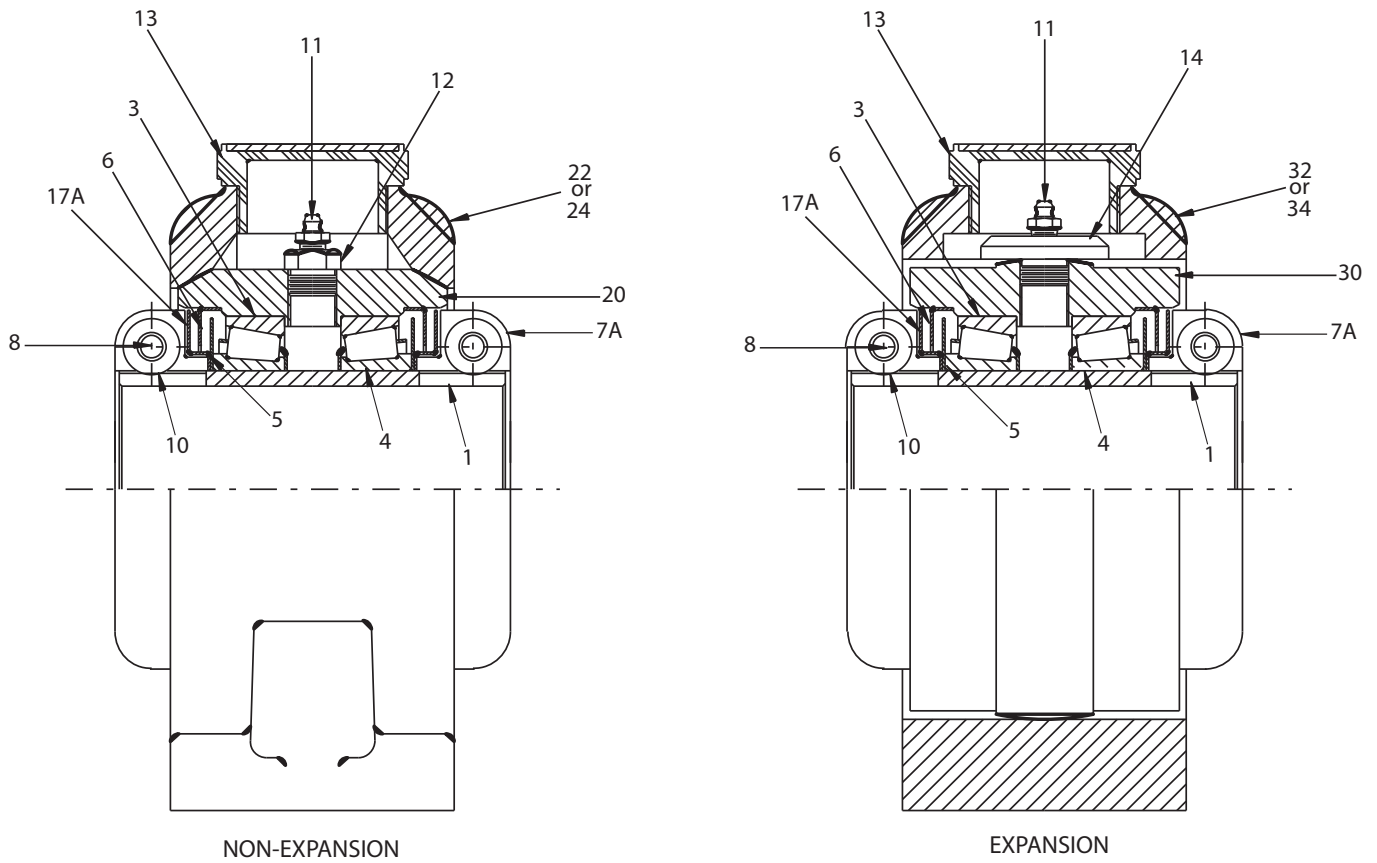

Figure 2 - Parts for Type C Bearings
**Table 5 - Parts for Type C Bearings - See Figure 2 on Page 4**